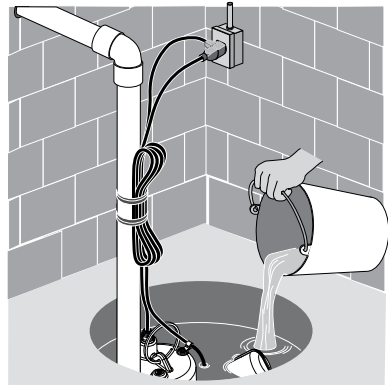

Figure 6
12. Check the pump operation by filling sump with water, as shown in Figure 6. Observe pump operation through one complete cycle.